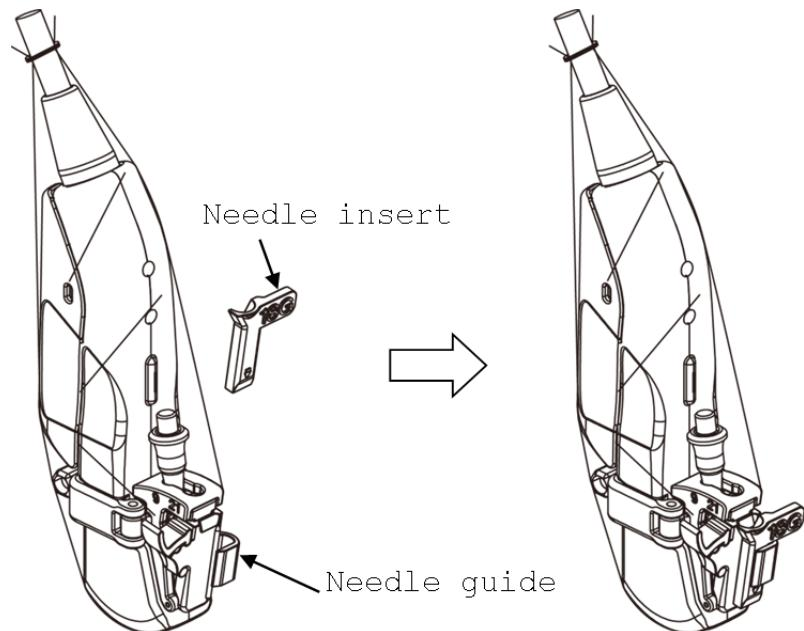

Fig. 16 Attaching the needle insert
- 4) Slide the needle insert into the needle guide by aligning the arrow tips. (See Fig. 16) Inspect the guide and cover assembly to ensure the needle path is clear of obstructions.